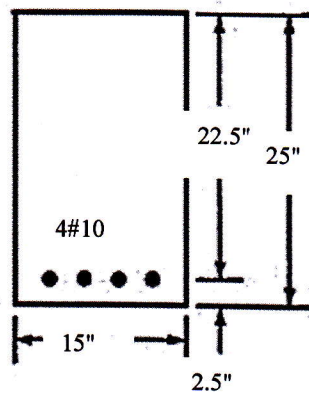

Figure 4
5. (a) Design the web reinforcement for the simply supported beam section shown in Figure 4, for which the unfactored working loads are  $W_D = 4$  k/ft and  $W_L = 6$  k/ft. Given,  $f'_c = 4$  ksi,  $f_y = 60$  ksi. Clear span is 14 ft. (8)